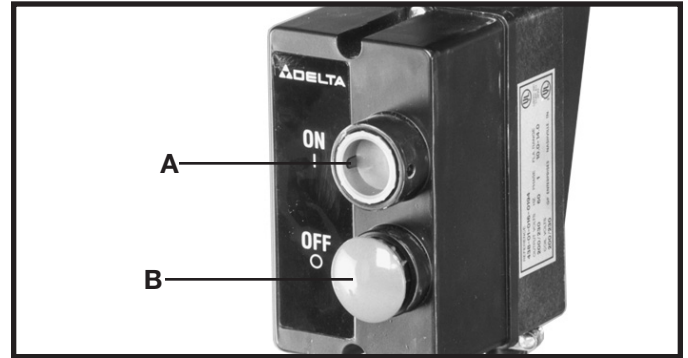

Fig. 39
1. To start the machine, push "ON" button (A) Fig. 39.
2. To stop the machine, push "OFF" button (B).